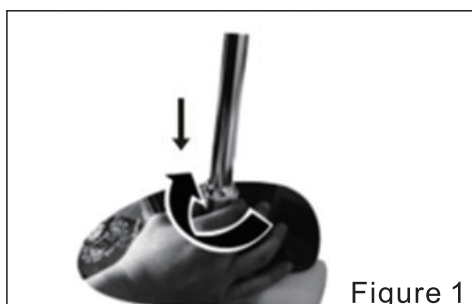

Figure 1
- ① Insert the extension-type aluminum pole into its holder, as shown in Figure 1.
- ② Rotate the extension-type pole fixing knob clockwise, as shown in Figure 1.